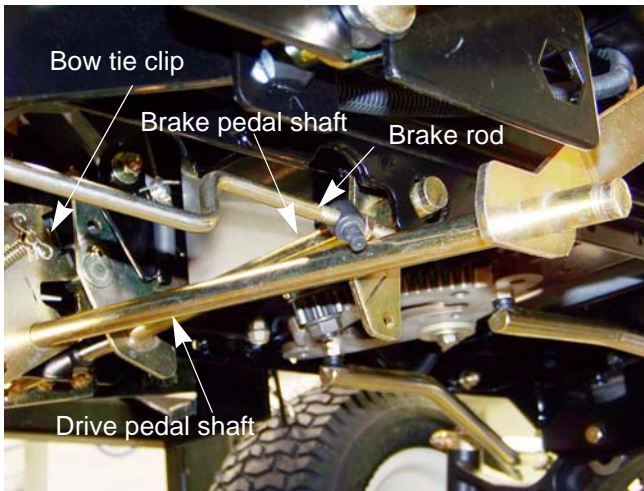

Figure 5.15
- 6a. Remove the bow tie clip that holds the drive control rod and spring to the bell crank on the pedal shaft. See Figure 5.15.